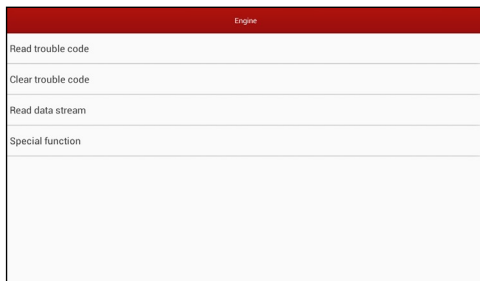

Fig. 5-17
5. Tap “Engine”, the system will jump to the function menu. See Fig. 5-17.